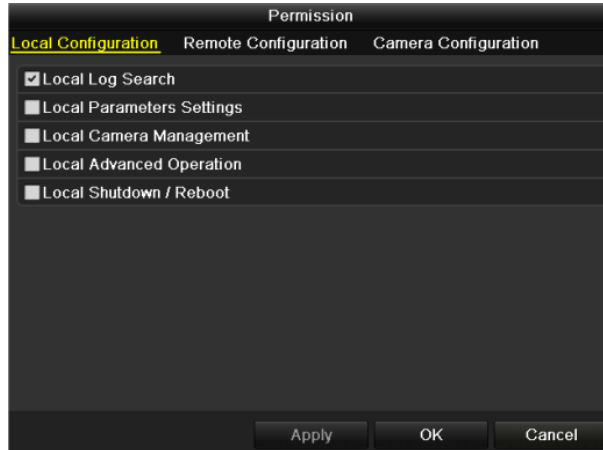

Figure 15-7 User Permission Settings Interface
Step 5 Select the user from the list and then click the button to enter the Permission settings interface, as shown in Figure 15-7.